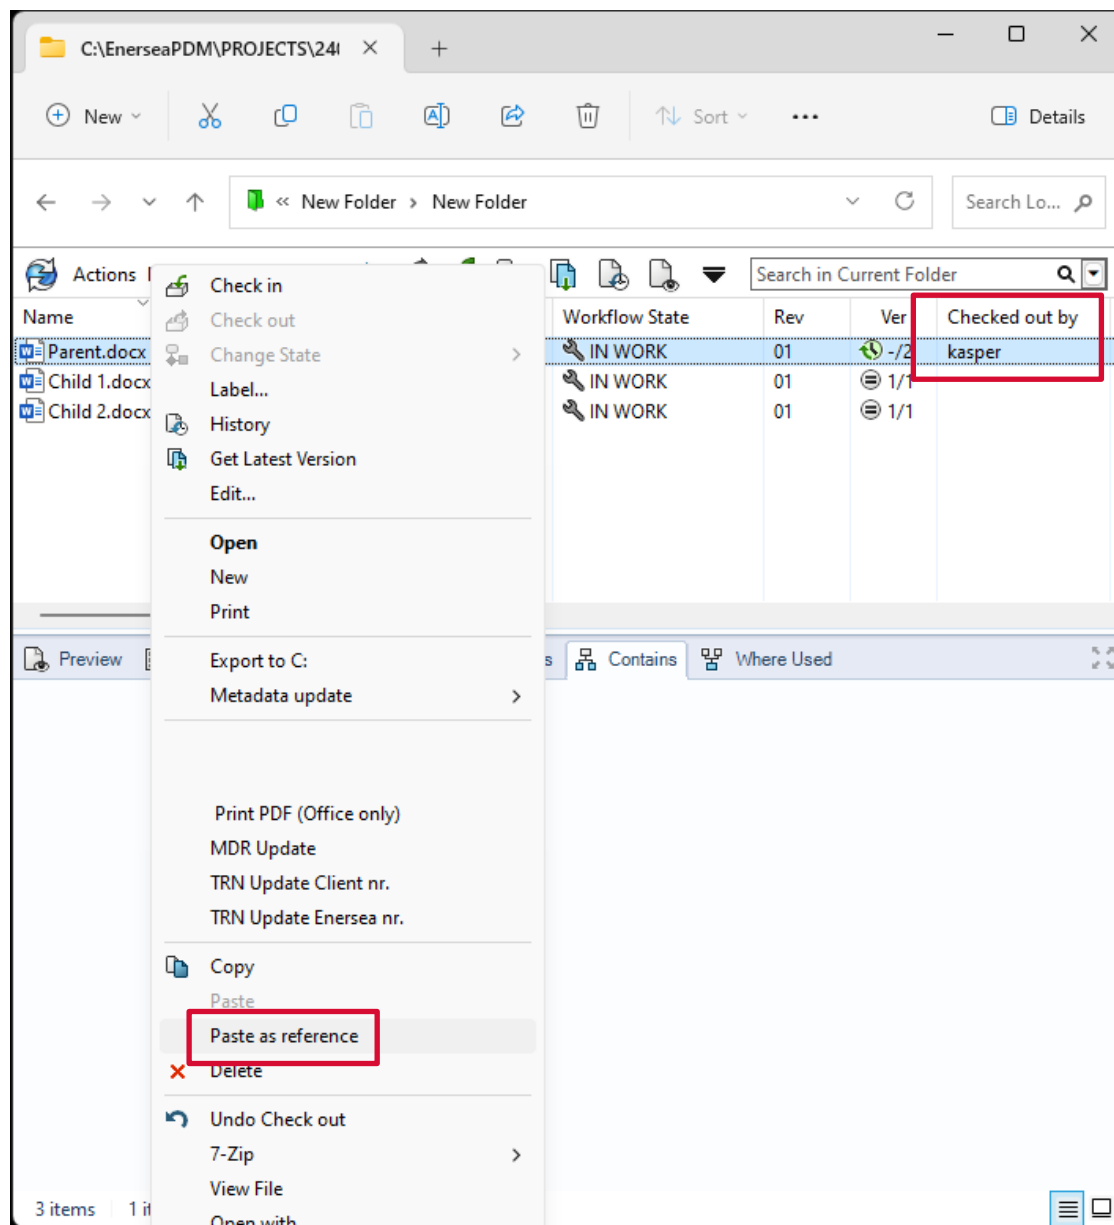

Figure 33 Paste as reference on Parent document (Parents has to be checked out).
4. Right click on the parent document and select "Copy as Reference" (Figure 33 and Figure 34)